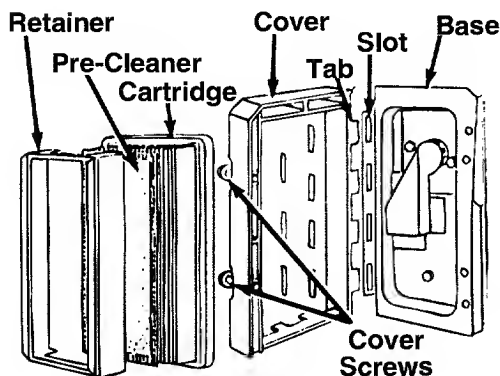

FIGURE 11.
- Loosen air cleaner cover screws. Remove cover and air cleaner assembly from base. See figure 11.